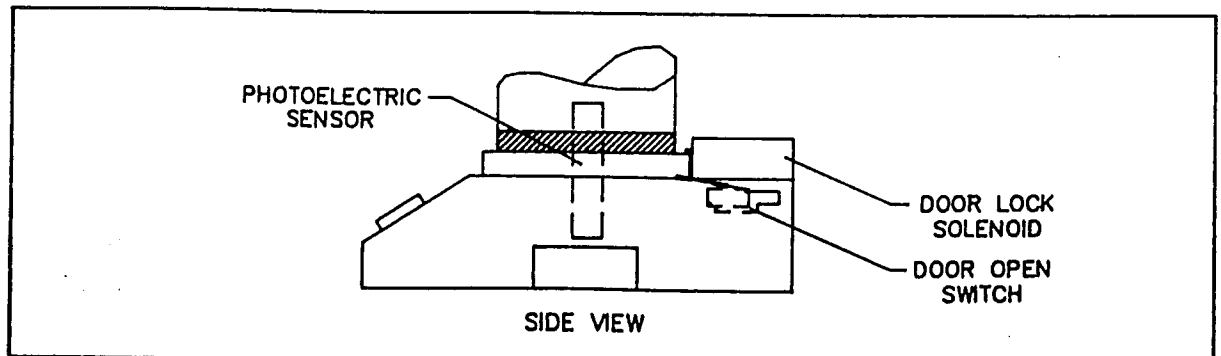

Figure III-5
4. The Sliding Sleeve Terminal performs the send and receive functions the same as the Vertical Airtite Terminal, with the exception that the Sliding Sleeve replaces the station door. Also, the solenoid-driven door lock is installed at the bottom rear of the station to lock the Sliding Sleeve from opening while a carrier is in transit to or from the station (see Figure III-5).